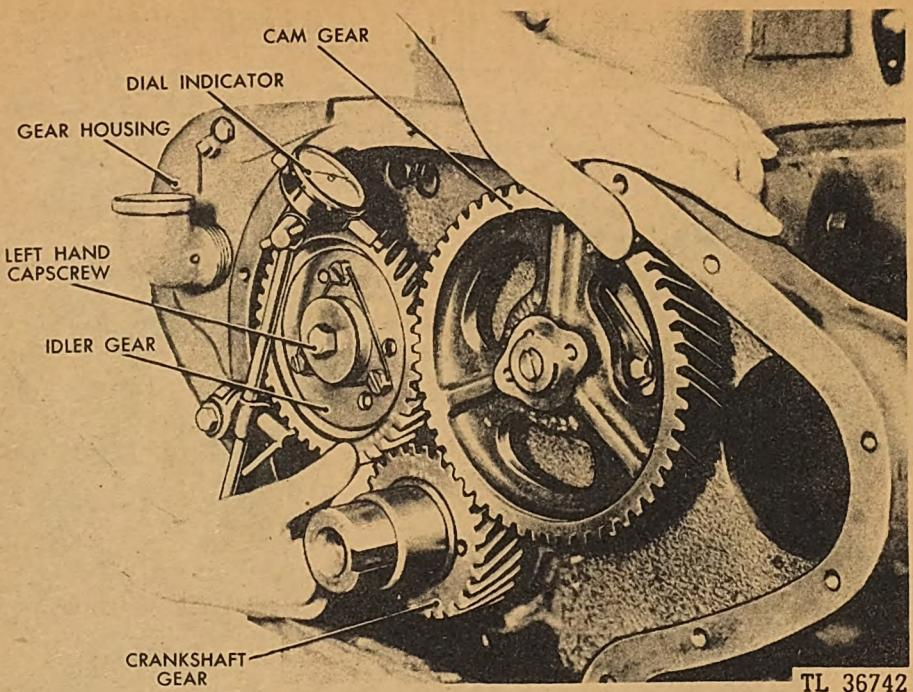

Fig. 90. Checking Idler Gear Backlash
inch. (See Figure 90.) Note that the camshaft gear is held stationary to prevent its moving while the idler gear backlash is checked. The backlash can be checked with a dial indicator as shown, or, if no indicator is available, insert thin feeler gauge strips between the two mating gear teeth at the point where an imaginary line would connect the gear centers until the clearance is taken up.
g. *Checking Camshaft Gear Backlash.* Check the camshaft gear backlash similar to that shown in Figure 90 for the idler gear. Refer to paragraph 48e.